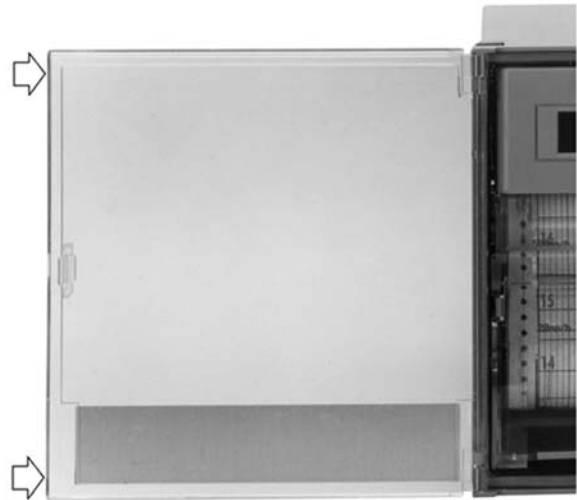
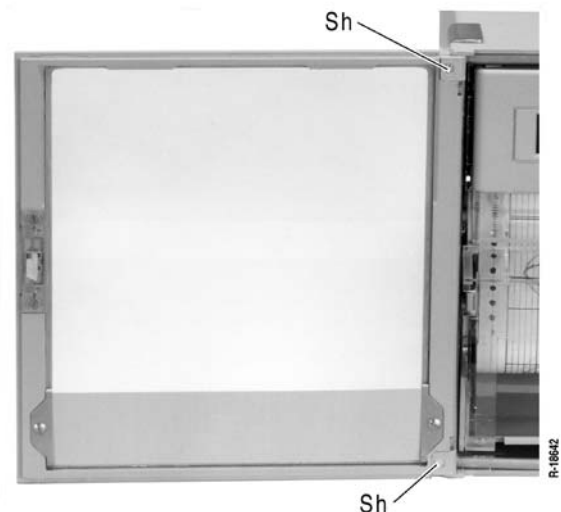

Figure 18 Replacing a door of molded material
Figure 19 Replacing a door with metal frame
4.4 Replacing the case doors (Figure 18 and Figure 19)
2. Push against the narrow cant of the door, first at the top, then at the bottom (see Figure 18) until the door hinge is disengaged.